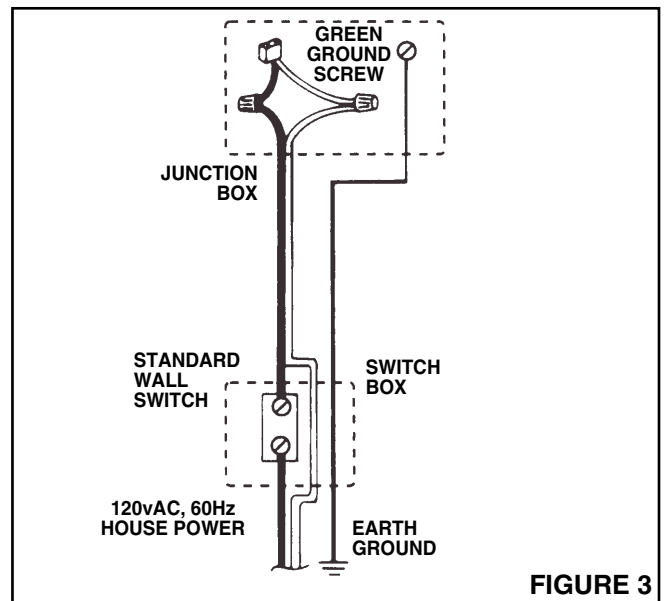

FIGURE 3
4. Refer to Figure 3. Run 120vAC, 60Hz power wiring from wall switch to ventilator housing. Remove the housing junction box cover and connect wires from wall switch to receptacle wires, using wire connectors - white to white, black to black. Use a box connector on junction box. Connect earth ground to green screw in junction box. Replace junction box cover.